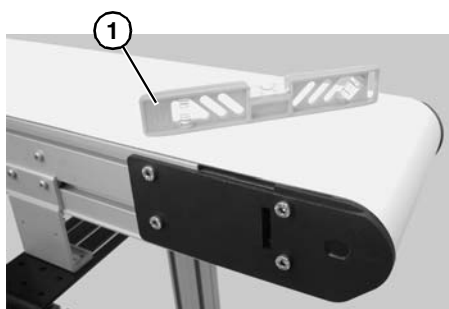

Figure 3
*Conveyor **MUST** be mounted straight, flat and level within confines of conveyor. Use a level (Figure 3, item 1) for setup.*